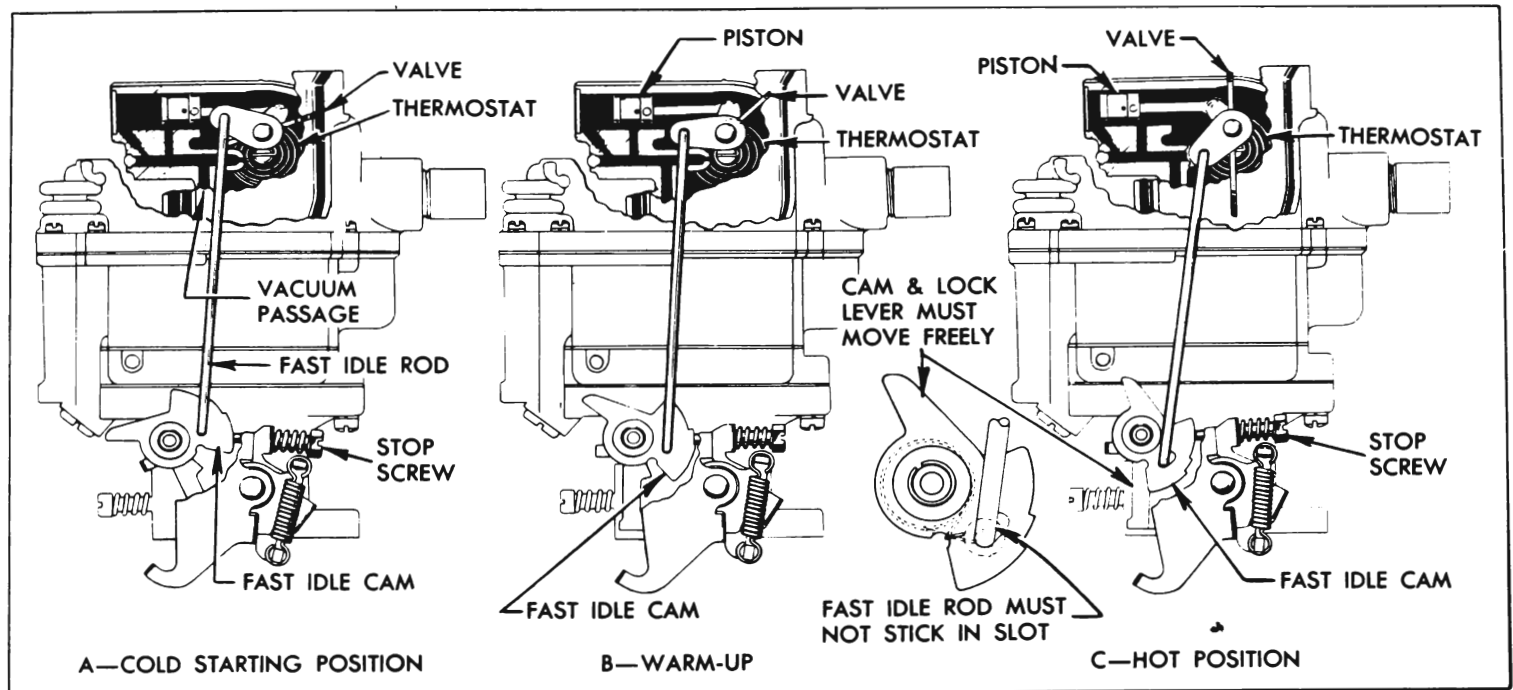

Figure 3-62—Stromberg Automatic Choke Operation
When the accelerator pedal is depressed to start the engine, the throttle stop screw is lifted clear of the fast idle cam and the thermostat then closes choke valve. See figure 3-62 (A).
throttle opening to prevent stalling of the cold engine. See figure 3-62 (A).
tension on the choke valve. The choke valve is in the wide open position and the fast idle cam is in the slow idle position so that the throttle stop screw bears against the lowest step of fast idle cam at closed throttle. See figure 3-62 (C).
When the throttle is opened and throttle stop screw is lifted from the fast idle cam, the choke valve then moves to a more open position and the fast idle cam is rotated to bring a lower step into position for the throttle stop screw. The engine will then run at a lower speed at closed throttle. See figure 3-62 (B).